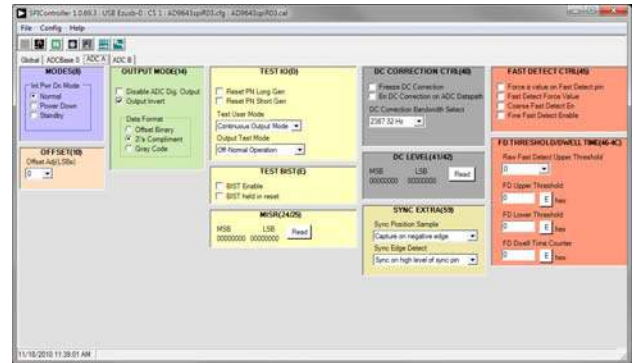
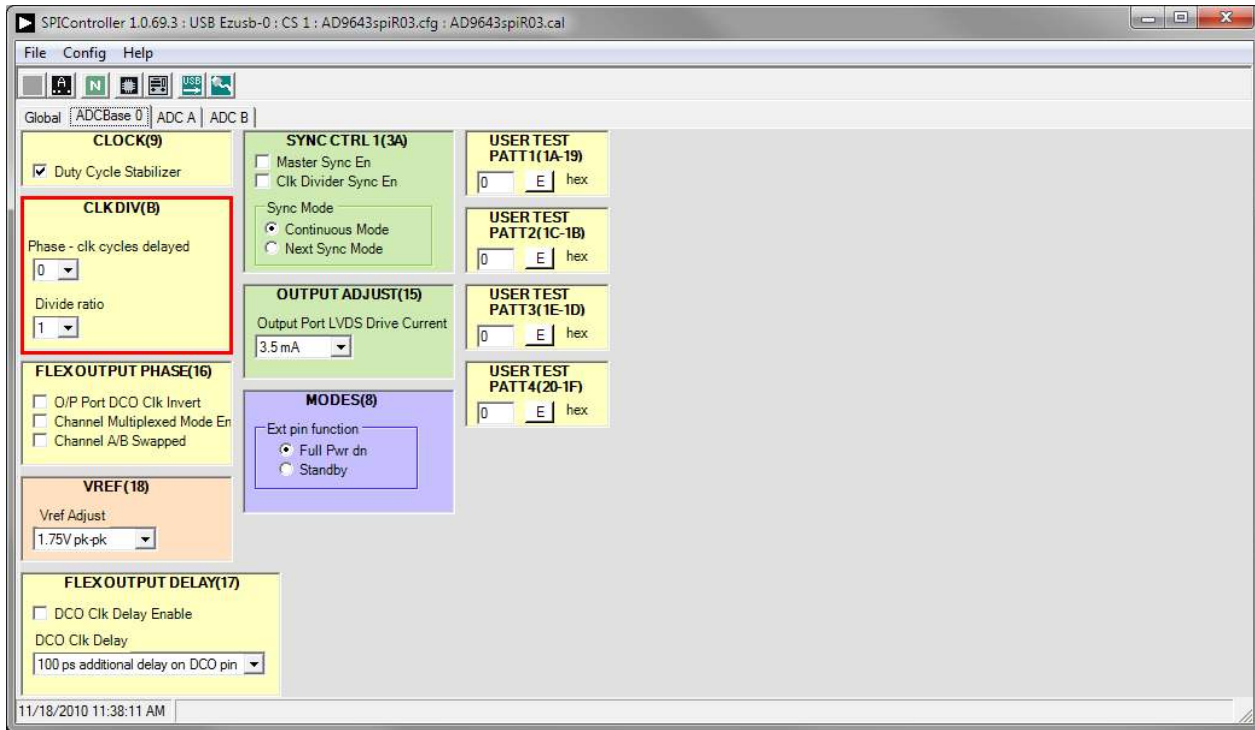

Figure 10. SPI Controller, Example ADC A Tab
Figure 11. SPI Controller, CLK DIV(B) Section
- In the **ADCBase 0** tab of the **SPIController** window, find the **CLK DIV(B)** section (see Figure 11). If using the clock divider, use the drop-down box to select the correct clock divide ratio, if necessary. See the appropriate device data sheet; the AN-878 Application Note, High Speed ADC SPI Control Software; and the AN-877 Application Note, Interfacing to High Speed ADCs via SPI, for additional information.
- Note that other settings can be changed on the **ADCBase 0** tab (see Figure 11) and the **ADC A** and **ADC B** tabs (see Figure 10) to set up the device in the desired mode. The settings on the **ADCBase 0** tab affect the entire device, whereas the settings on the **ADC A** and **ADC B** pages affect the selected channel only. See the appropriate device data sheet; the AN-878 Application Note, High Speed ADC SPI Control Software; and the AN-877 Application Note, Interfacing to High Speed ADCs via SPI, for additional information on the available settings.